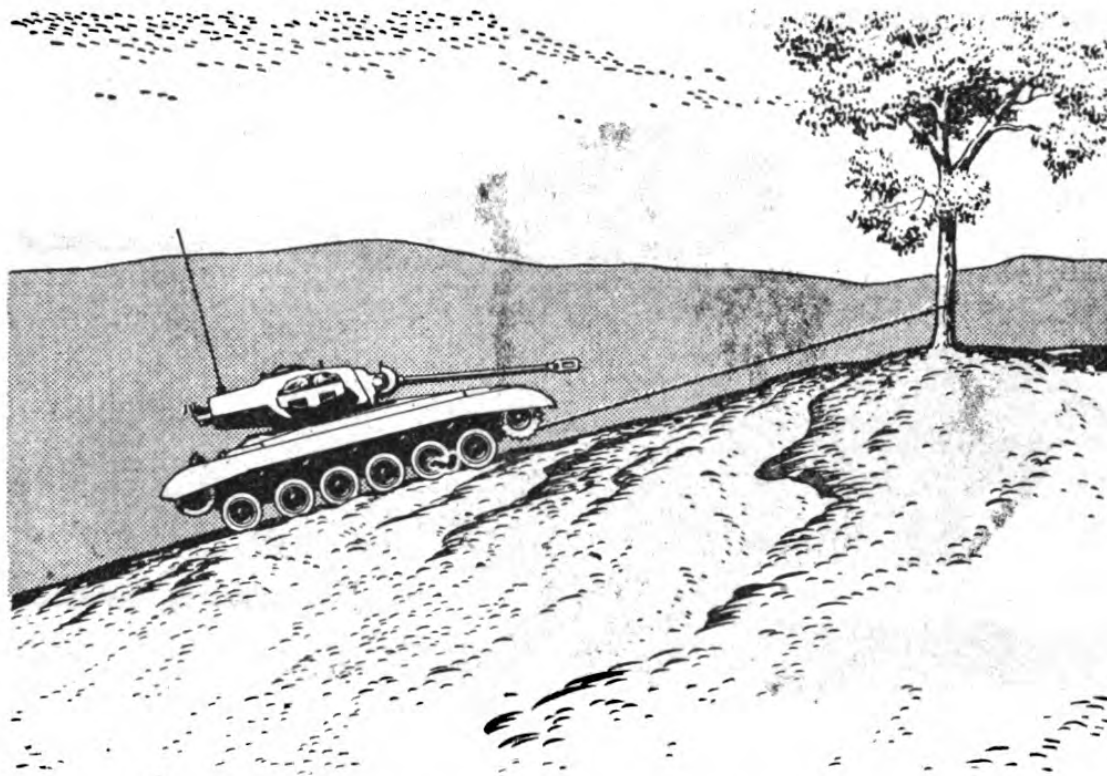

Figure 38. When one or both tracks are thrown, move the vehicle by using the sprocket as a winch.
36. THROWN TRACKS. To move a full-track vehicle when one or both tracks are off, use one sprocket as a winch. (See fig. 38.)